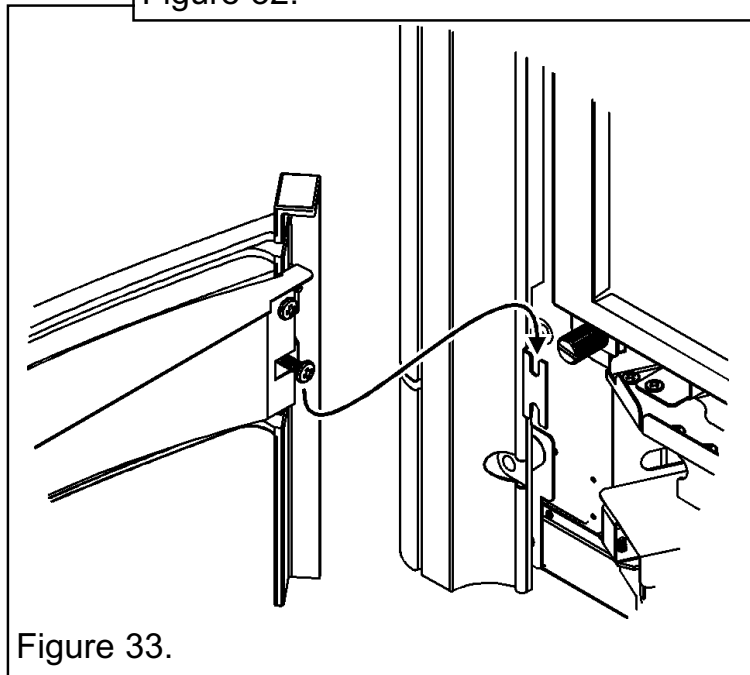

Figure 33.
3. Hang the firefront on the keyhole slots on the heater (See figure 33).